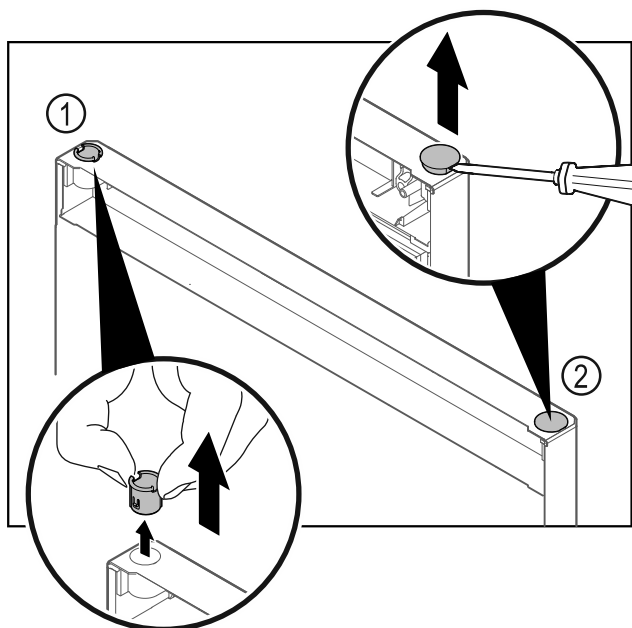

Fig. 17
- ▶ Pull out the hinge bushing Fig. 17 (1) with your fingers.
- ▶ Carefully lift the cover plug Fig. 17 (2) with a slotted screwdriver and pull it out.